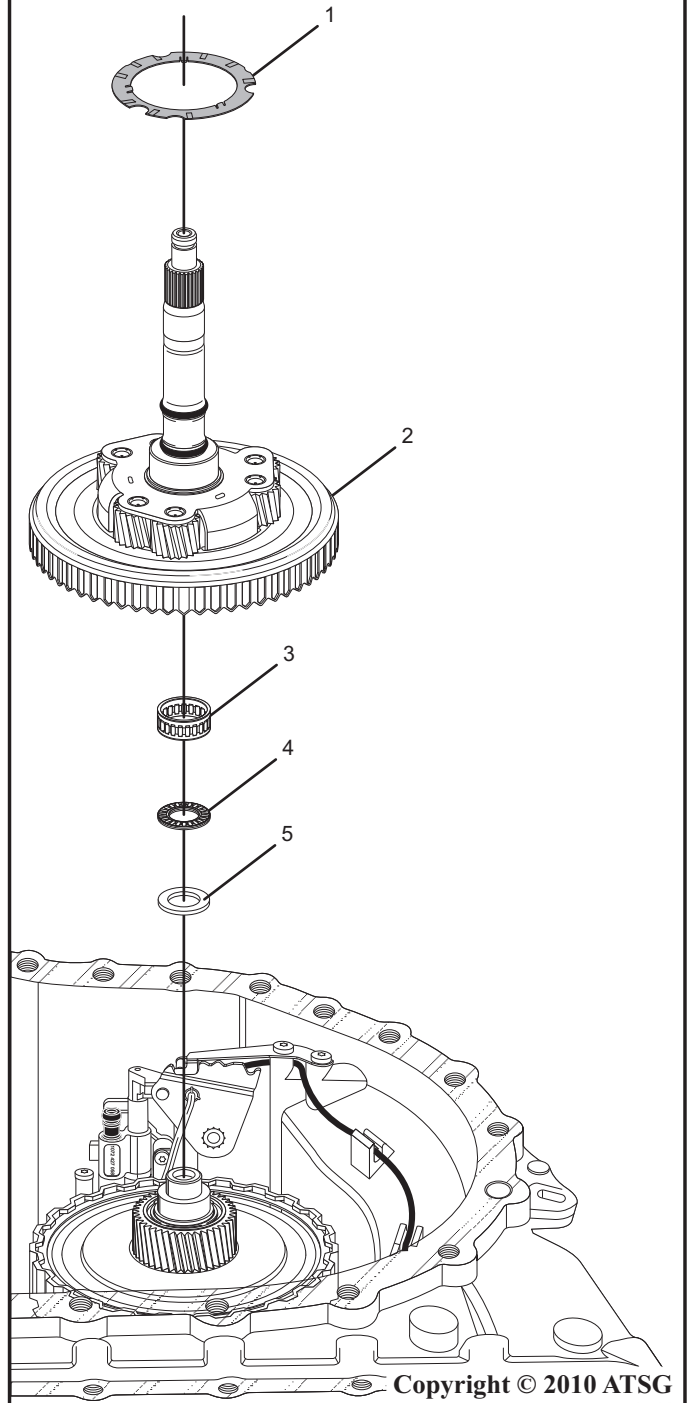

Figure 21
Note: install bearings and thrust washers using the diagram in figure 21.
47. Coat the thrust washer (selective) with a small amount of Trans-Jel® and install onto the variator shaft as shown in figure 21.
48. Coat the input bearing (flat needle bearing) with a small amount of Trans-Jel® and install onto the variator shaft as shown in figure 21.
49. Coat the input bearing (caged needle bearing) with a small amount of Trans-Jel® and install onto the variator shaft as shown in figure 21.
50. Install the input shaft/front planetary with a twisting motion as shown in figure 21.
51. Coat the input shaft/front planetary thrust washer with a small amount of Trans-Jel® and install onto the input shaft as shown in figure 21.